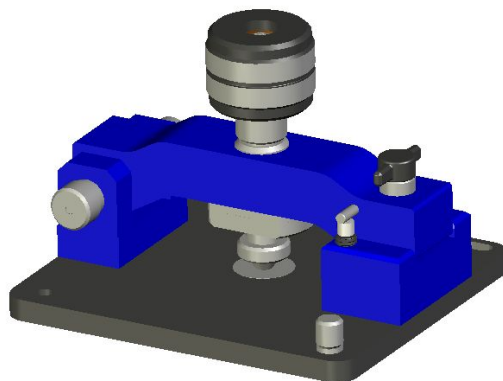

Fig 4: Angled View of Germanium ATR Top Plate 10566
- 1 MKII Germanium 45° ATR top plate (Fig 4)